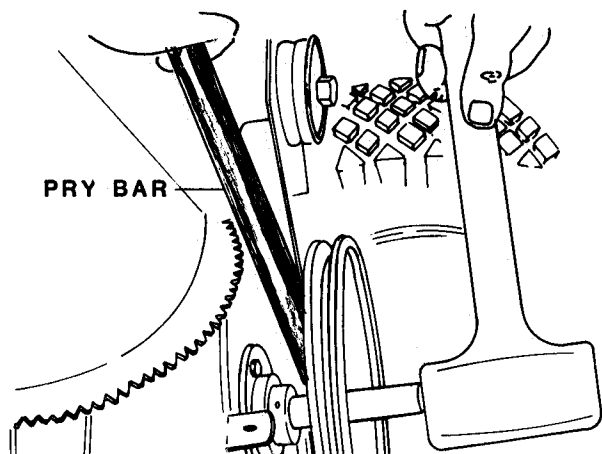

FIGURE 3.9 — BUMPING SHAFT TO REMOVE PULLEY
**STEP 2.** Count the number of washers used as spacers between the drive plate blower belt sheave (use same number when re-installing). Loosen the two setscrews on the sheave collar. Place a crow bar behind the sheave as shown in figure 3.9 and bump the end of the impeller shaft, then slide the sheave off the shaft. Remove the woodruff key from the slot in the impeller shaft. With file or emery cloth, remove burrs or marks from impeller shaft as housing bearing has close fit.